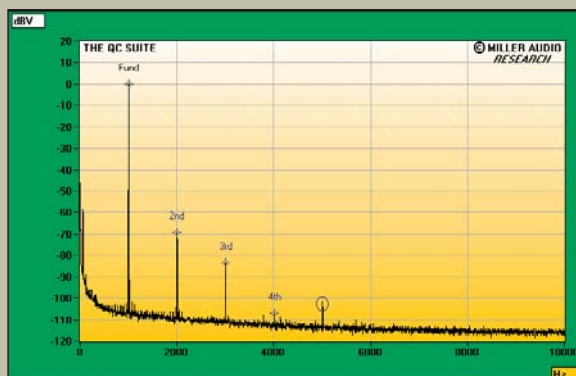
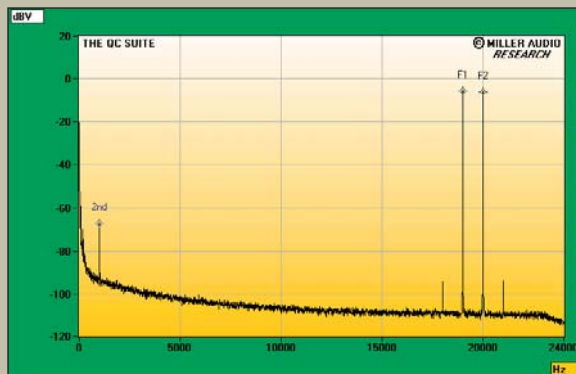

Fig. 2 EAR 912, MM mode, spectrum of 1kHz sinewave, DC-1kHz, at 1V into 8k ohms (linear frequency scale).
Fig. 3 EAR 912, MM mode, HF intermodulation spectrum, DC-24kHz, 19+20kHz at 1V into 8k ohms (linear frequency scale).
gins were acceptable at the lowest gain setting, ranging from 10dB at 20Hz and 20kHz to 21dB at 1kHz (all figures ref. 1kHz at 5mV). Each 6dB increase in gain, however, reduced the margin by the same 6dB. Owners of the 912 should set the phono-stage gain to the lowest level acceptable with their preferred cartridge. But with its gain set appropriately, the 912 offers quite low levels of both harmonic distortion (fig.2) and intermodulation distortion (fig.3).